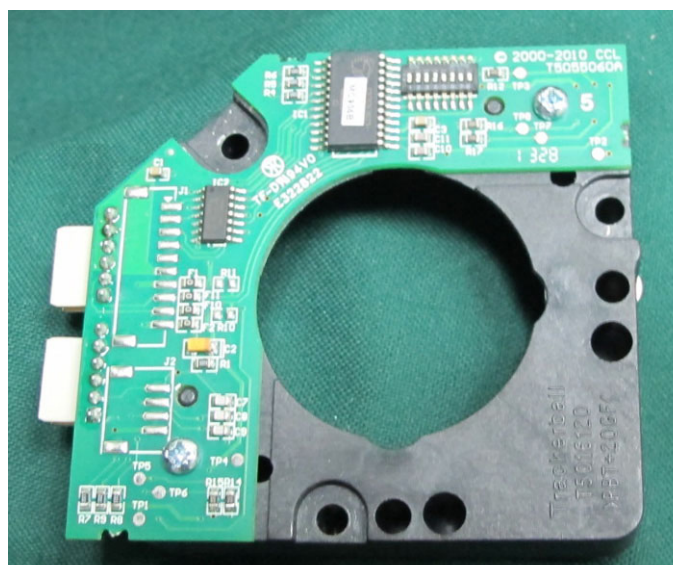

Figure 8-66 Trackball Board and Housing Removed
- 8.) Lift the Trackball Board and Housing assembly up and remove - Figure 8-66.